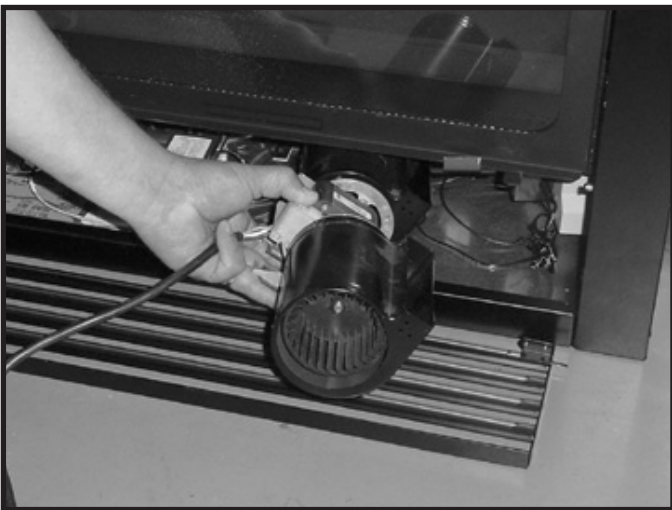

Figure 3 Insert the Fan Into the Appliance (Avoiding Wires)
3. Insert the fan into the appliance with the air slots up. Insert the end first to the right side of the valve assembly. Be sure to avoid pulling any of the wires out of place. See Figure 3.